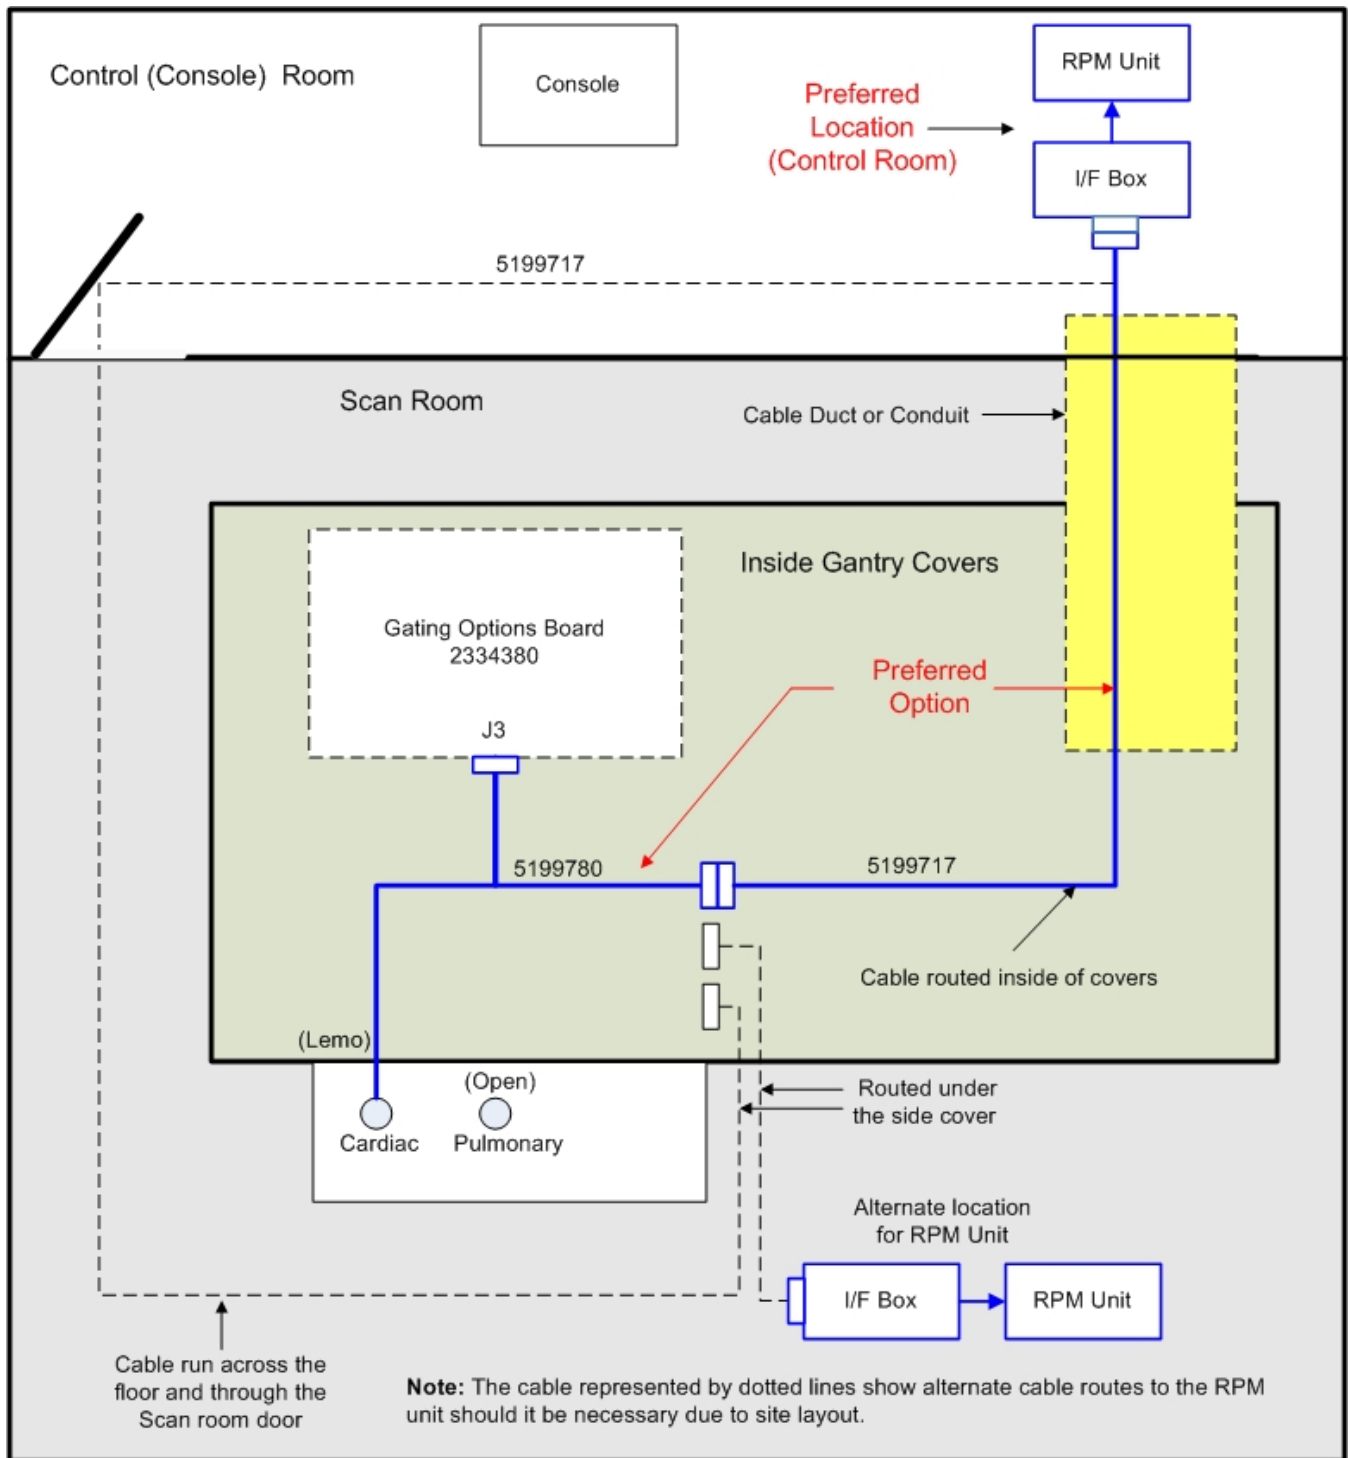

FIGURE 3-4: RPM CABLE ROUTE DETAIL
3. Refer to Figure 3-4 for cable 5199717 routing detail. Route this cable from the Gantry to Sub-D J4 of the Varian CT-RPM Respiratory Gating I/F Box.